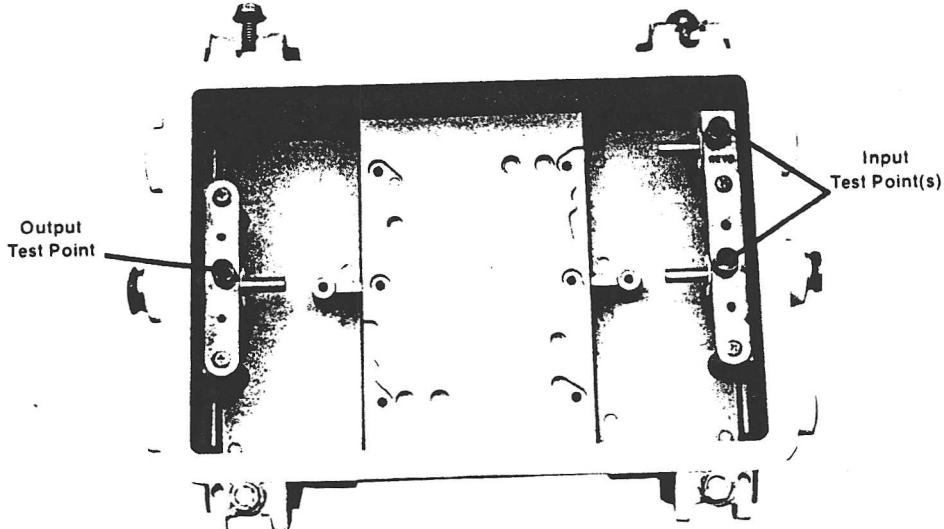

Figure 3.3.3 Input and Output Test Point Locations
8. Verify that the input level is correct (according to your system specifications) by connecting the field strength meter to the Input Test Point using the test probe. Reference Figure 3.3.3 for Input Test Point location. If the input level is not correct, system troubleshooting will be required. Reference the *Texscan CATV Systems Application Handbook, T300-T400 Equipment* for system troubleshooting procedures.
10. Connect the field strength meter to the Output Test Point using the test probe. Reference Figure 3.3.3 for Output Test Point location.
2. Connect the field strength meter to the TxLET Output Test Point using the test probe. Reference Figure 3.3.3. Set the Gain and Slope Controls to the output levels required by your system map and/or your system design requirements.